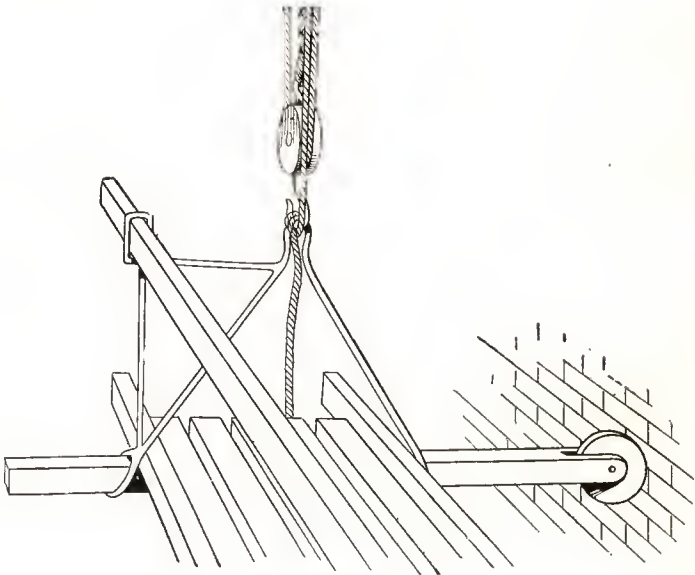

FIG. 39
**Swing Stage Safety Stirrups:** Figure 39 explains this metal stirrup and guard-rail device which is designed to take the place of rope stirrups. Built of wrought iron to comply with state, city and labor union safety regulations. These are now very generally used in place of the old-fashioned rope rigs.